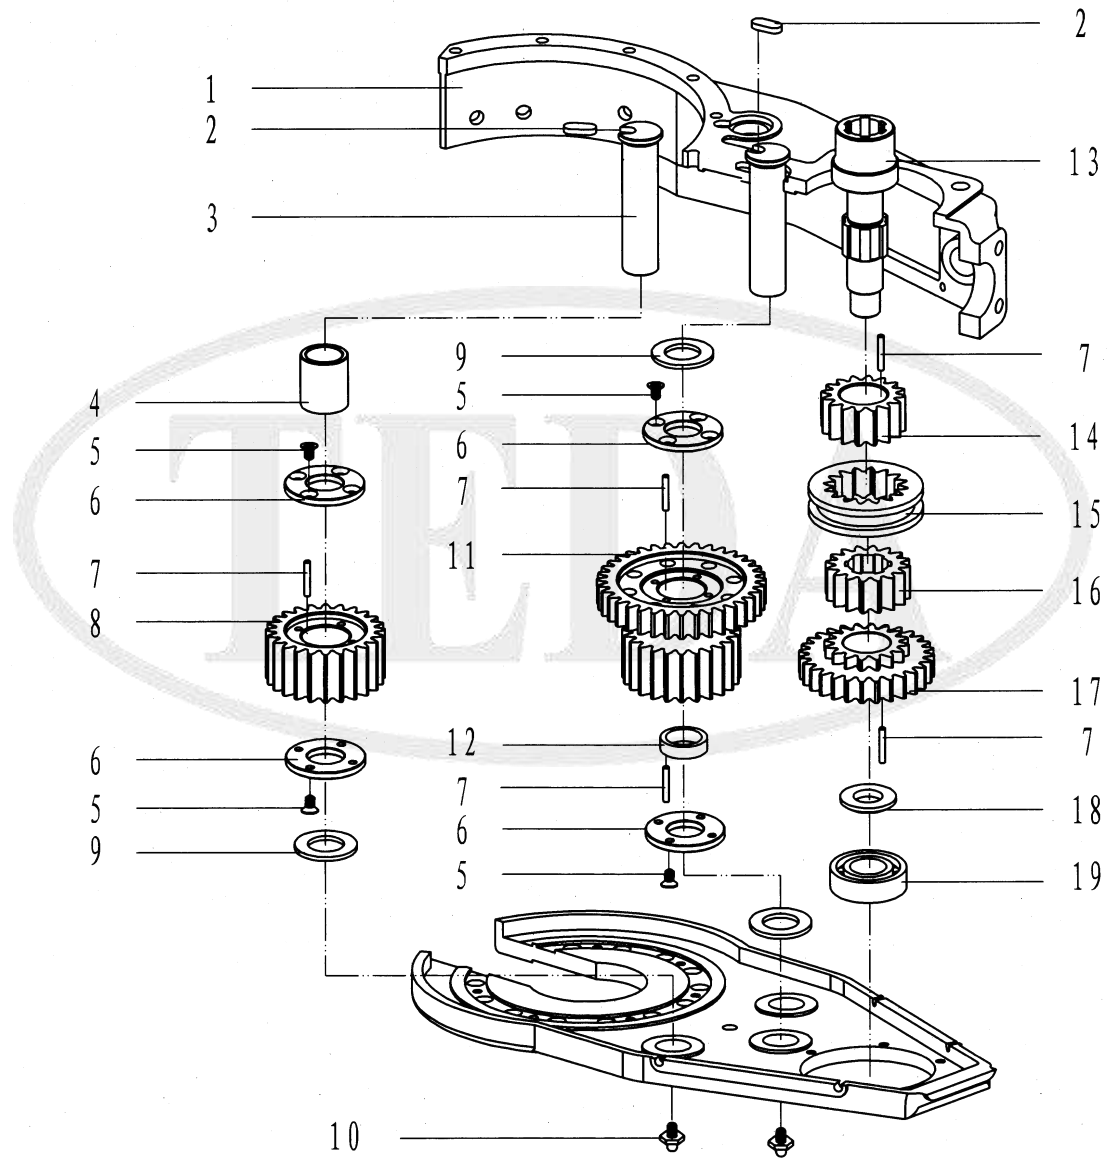

Fig. 8 Transmission mechanism
9.6 Transmission mechanism and parts list (Fig.8, Table 6)